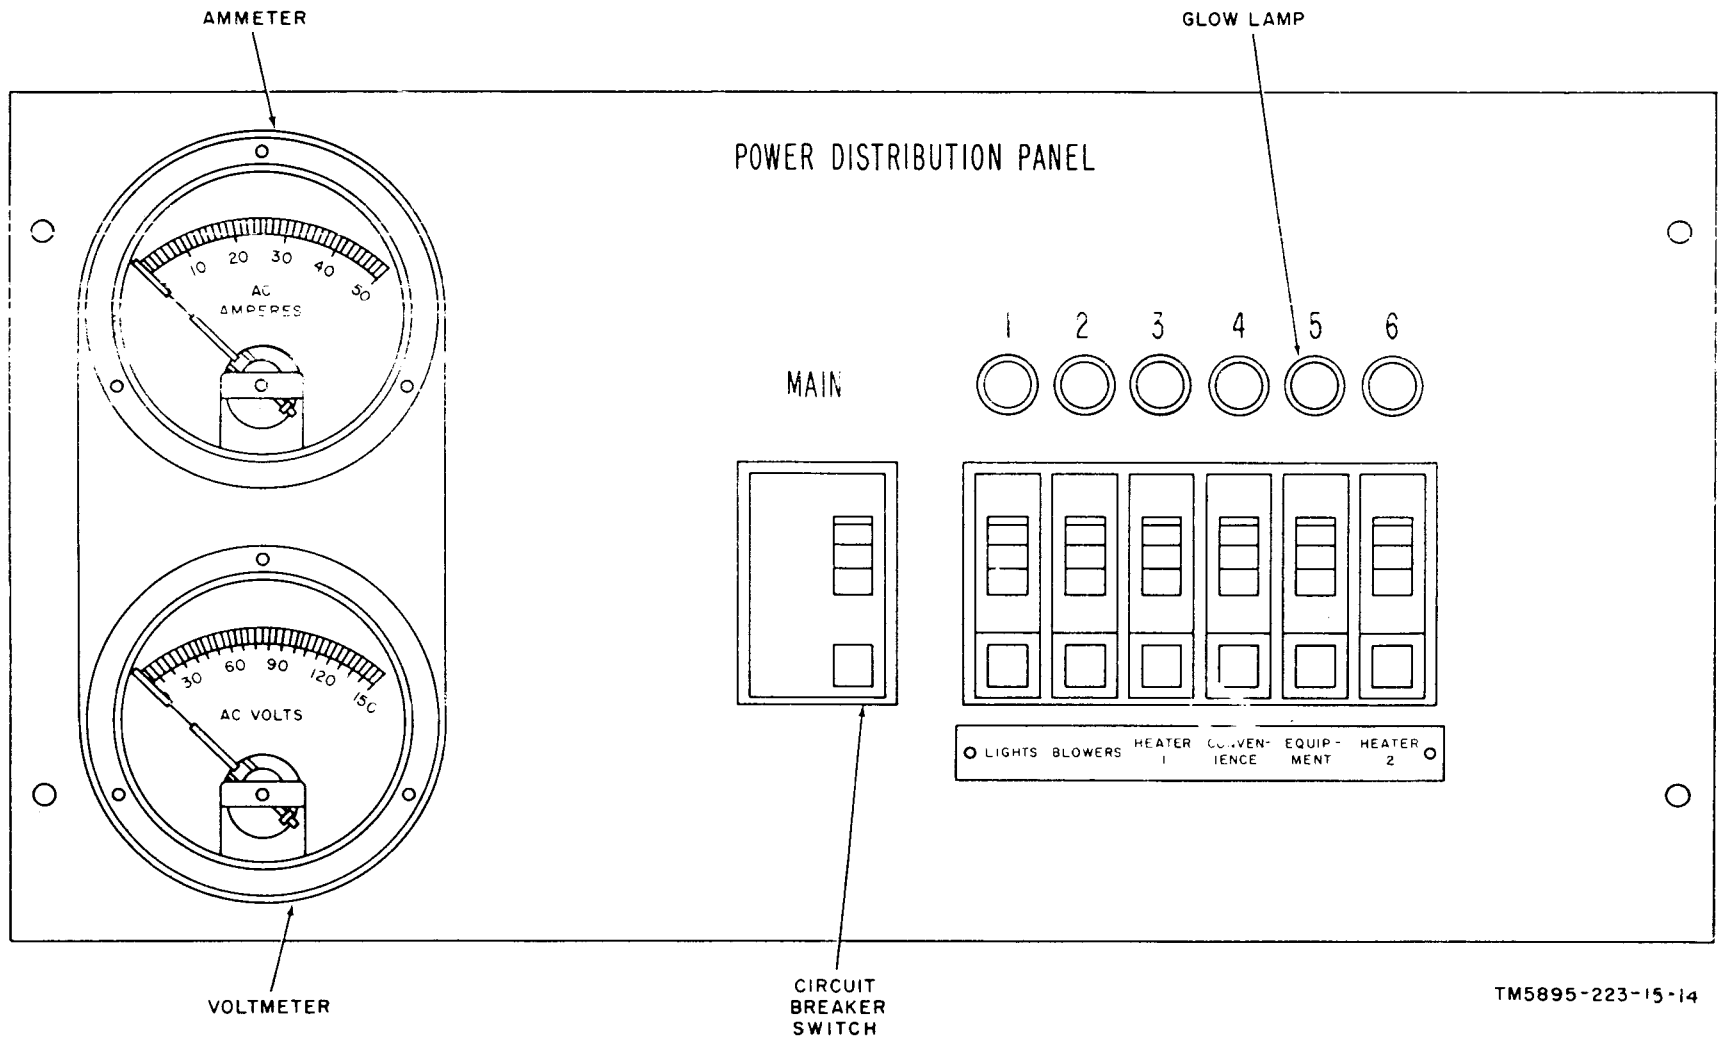

Figure 10. Power distribution panel.
- (3) *Power distribution panel* (fig. 10). The power distribution panel contains metering and control circuits for the ac distribution circuits.